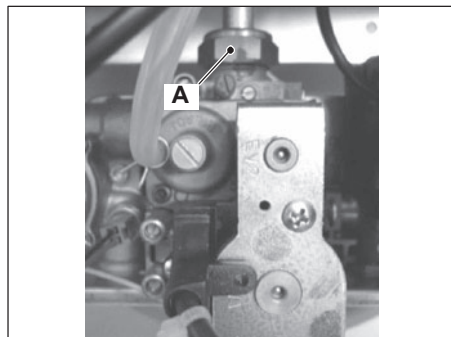

Fig. 8.2
- Unscrew the connector A (Fig. 8.2), remove the fixing fork B and remove the pipe